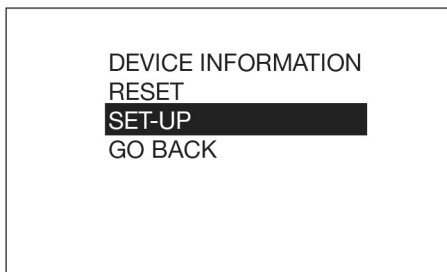

FIG. 24
- Use the UP or DOWN ARROW button on the keypad to highlight SET-UP (FIG. 24) and then press the center ENTER button on the keypad to select the SET-UP option.